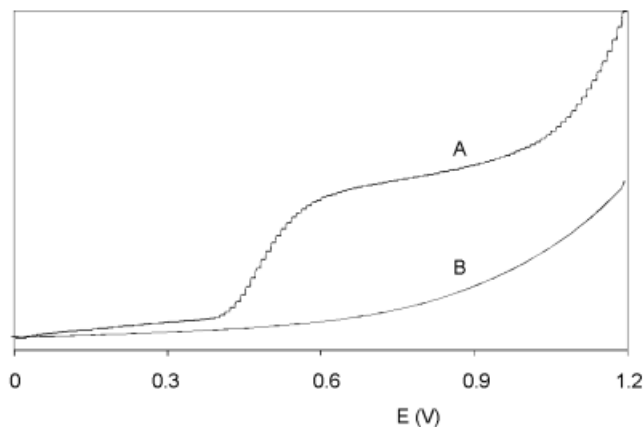
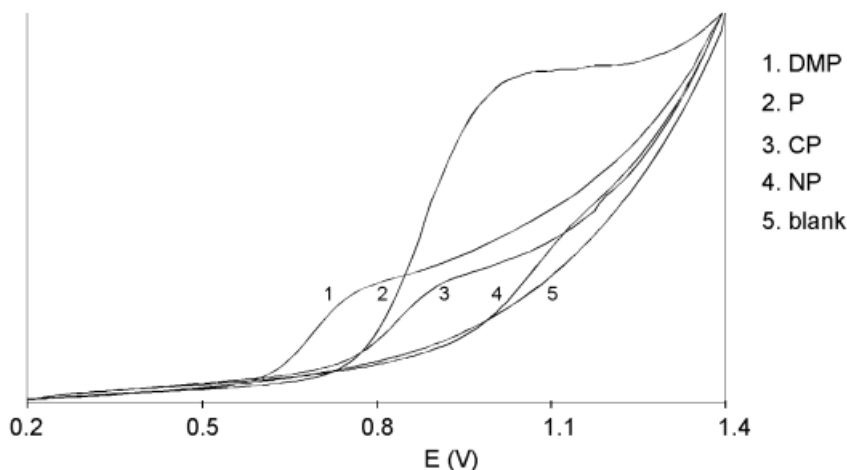

Figure 3-68 Scanning Voltammetry of Norepinephrine
Figure 3-70 Overlay of Four “Half” Forward Scans
5. Plot the peak heights and the background currents against the working potential (Figure 3-68).
Figure 3-68 shows the scanning voltammetry of 1.0 $\mu\text{M/L}$ norepinephrine (scan A) at a glassy carbon WE, at a scan speed of 10 mV/s. Scan B is the blank solvent. Scan A is the sum of the analyte signal and the background signal.
- Cyc=half** – A half scan sweeps the potential from low ($E_1 = 0.20 \text{ V}$) to high ($E_2 = 1.20 \text{ V}$; see Figure 3-68 and Figure 3-70).
Figure 3-70 shows the scanning voltammograms of 2,4-dimethylphenol (DMP), phenol (P), 2-chlorophenol (CP), 4-nitrophenol (NP), and a blank (buffer only).
To obtain a scanning voltammogram such as in Figure 3-68 and Figure 3-70: